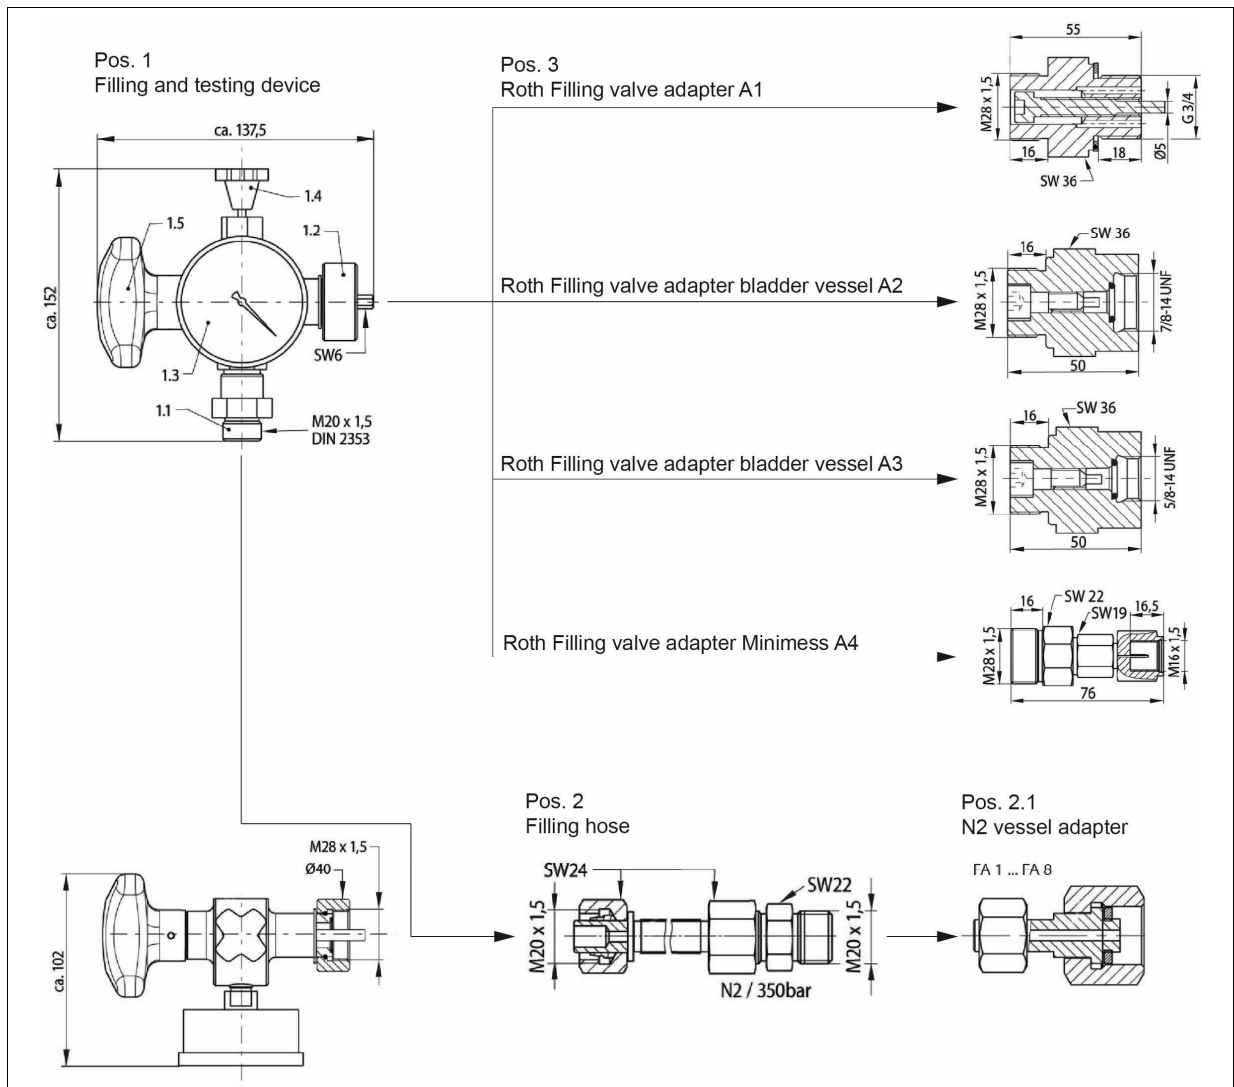

Figure 1-1 Roth filling and testing device
The filling and testing device (see Fig. 1-1, Pos. 1) may only be operated by trained qualified staff in accordance with the work instruction below.
2.	Rotate the spindle of pressure relief valve (Fig. 1-1, Pos. 1.4) on the filling and testing device (Fig. 1-1, Pos. 1) clockwise up to the stop (closed).
5.	Connect the corresponding filling hose connection (Fig. 1-1, Pos. 2) to the connection point of the filling and testing device.
6.	 <p>Connect the other end of the filling hose (Fig. 1-1, Pos. 2) to the connection of the N2 vessel. You will need the corresponding N2 vessel adapter FA1 ... FA8 to do this (Fig. 1-1, Pos. 2.1).</p> <p>Check the filling hose (Fig. 1-1, Pos. 2) for damages every time before filling. Take appropriate safety precautions to prevent any danger should the hose rupture. You may, for instance, run a tensioned steel cable parallel to the filling hose, joined to the hose in several places. Please note that the max. filling hose service life of ca. 6 years should not be exceeded.</p>
8.	Keep the N2 cylinder valve open until the pressure gauge shows the required pre-filling pressure (P_0). With the filling valve open, P_0 may also be read off on the pressure equipment or accumulator systems gas side pressure gauge, if existing. To read P_0 , the N2 vessel adapter (Fig. 1-1, Pos. 2.1) must be closed from time to time.
10.	Reduce P_0 to the correct value via the pressure relief valve (Fig. 1-1, Pos. 1.4), should it be too high. The N2 vessel valve must be closed.
- Carry out steps 11 to 13. Unscrew the N2 vessel adapter (see Fig. 1-1, Pos. 2.1) from the filling hose (Fig. 1-1, Pos. 2.1) on the empty N2 cylinder and attach the filling hose to a full N2 vessel.
3.	Rotate the pressure relief valve (Fig. 1-1, Pos. 1.4) anticlockwise to release N2.
4.	Make sure that the pressure equipment of the gas side is depressurised. The pressure gauge will in this case show 0 bar. Leave the pressure relief valve (Fig. 1-1, Pos. 1.4) in open position.